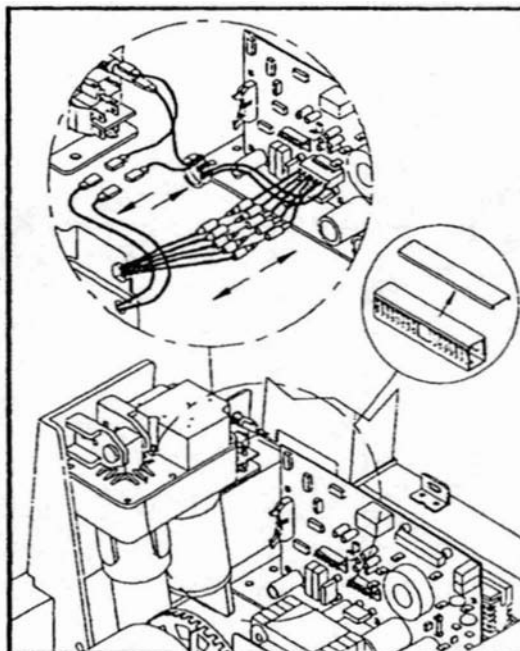

Fig.3
3. Remove the top cover and unplug all terminals from elevation unit. (See Fig.3)